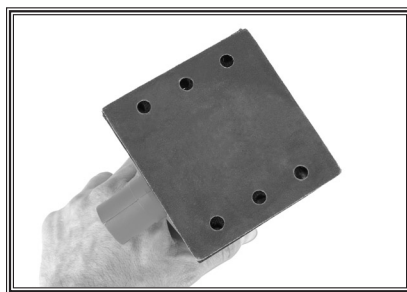

Figure 1. Sandpaper and base holes aligned.
3. Place the sandpaper over the base and align the holes in the paper with holes in the base (**Figure 1**).